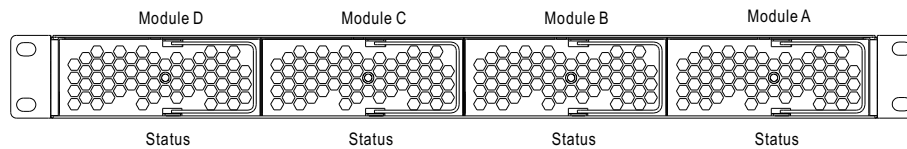

Figure 4-1 DHP System assembly diagram
- ☉ Insert 1 ~ 4 pieces of DRP/DBR-3200 (with the same output voltage and current) into the DHP-1U (refer to Figure 4-1)